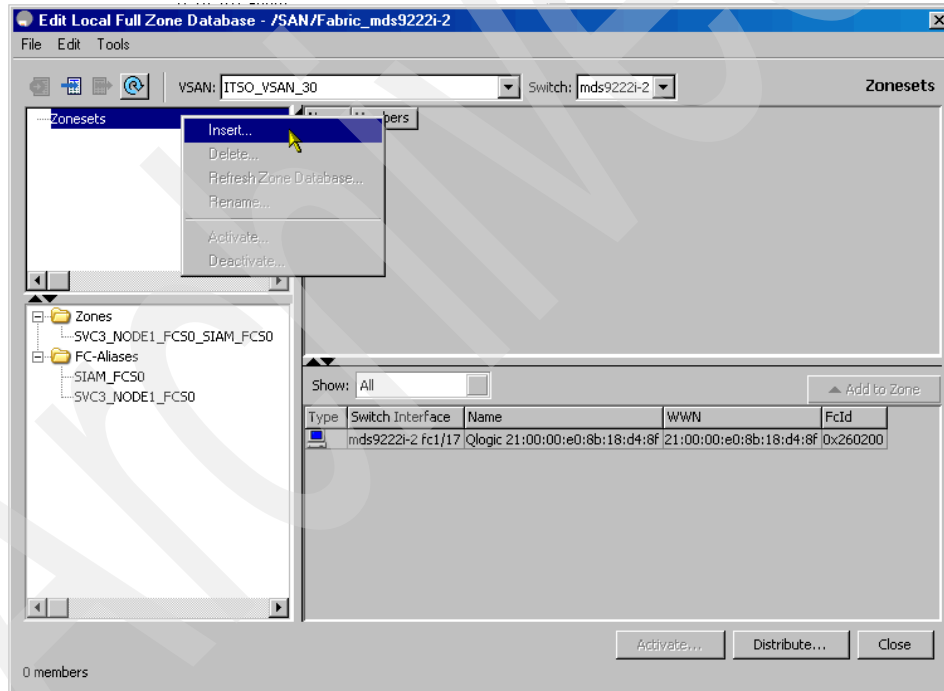

Figure 6-64 Define a new zoneset
1. Right-click **Zonesets** and select **Insert** to create a new zoneset, as shown in Figure 6-64.